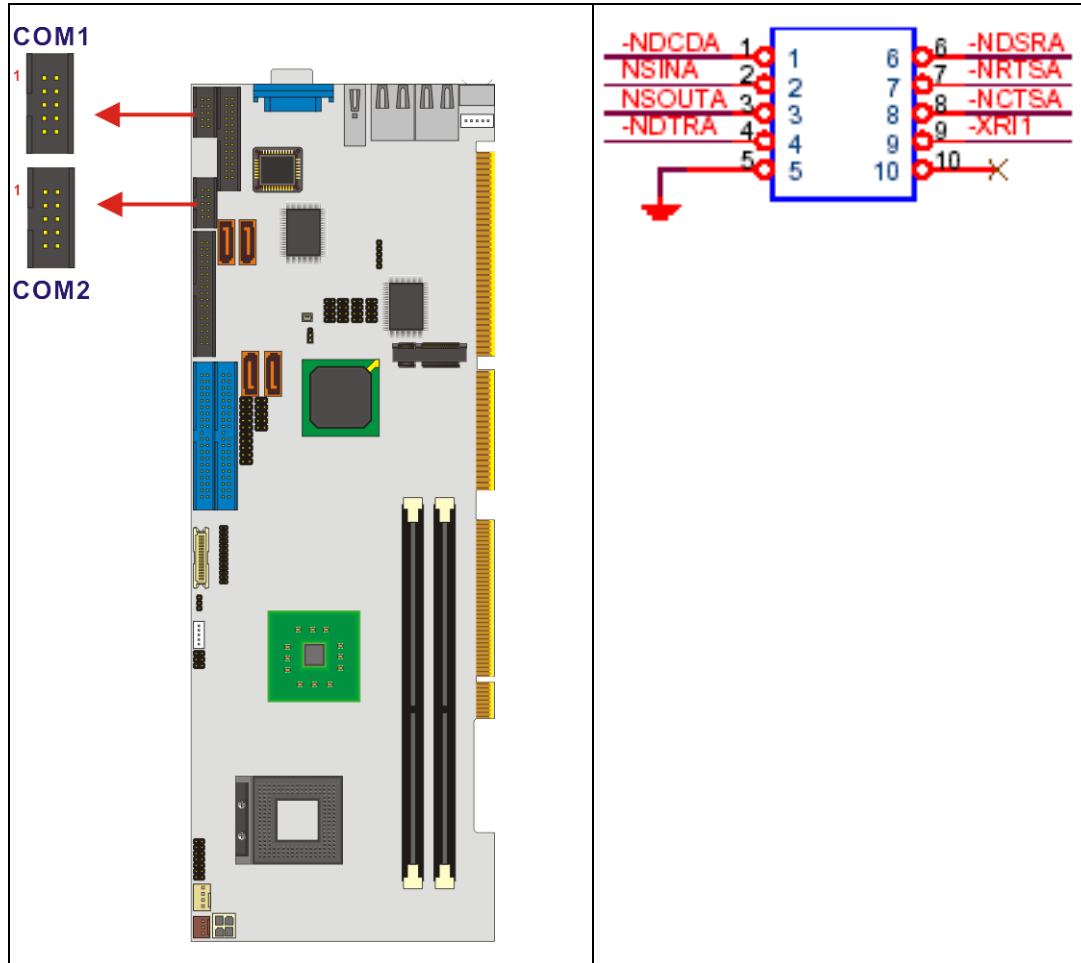

Figure 4-17: RS-232 Serial Port Connector Location
- CN Location:** See Figure 4-17